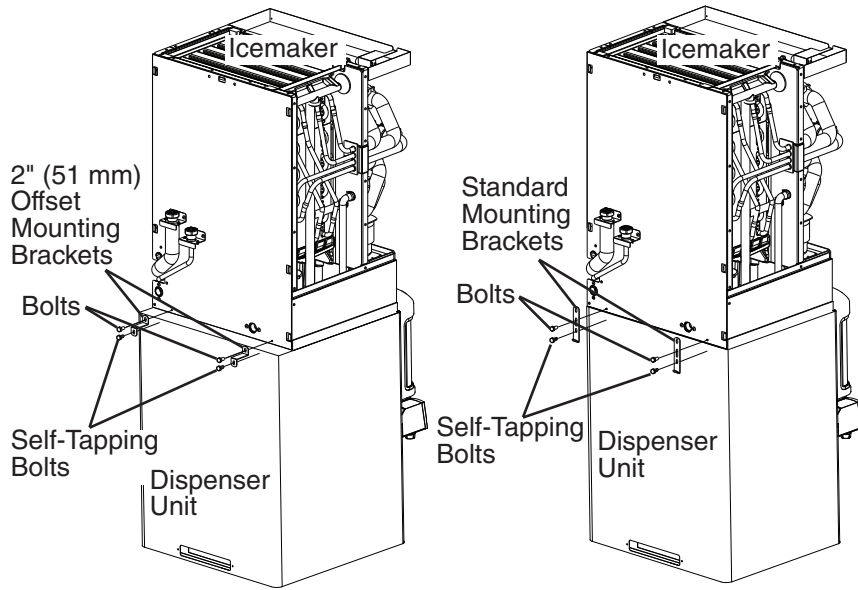

Fig. 5a
- 6a) **Dispenser Unit:** Follow the dispenser unit's instructions for securing the icemaker to the dispenser unit. If no instructions are available, secure the icemaker to the dispenser unit using the mounting brackets provided. If the installation requires the dispenser unit to extend 2 inches beyond the back of the icemaker, use the offset mounting brackets. See Fig. 5a. If the icemaker is flush with the back of the dispenser, use the standard mounting brackets and rotate them so that they fit flush to the icemaker and dispenser unit. Secure the mounting brackets to the icemaker with the machine bolts provided. Secure the mounting brackets to the dispenser unit with the self-tapping bolts provided. **NOTICE! Use care to avoid damage to dispenser unit components when attaching the mounting brackets.**